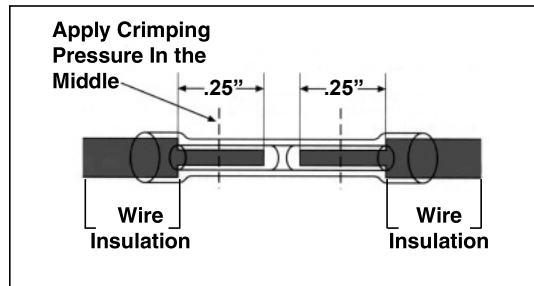

Figure 5
**NOTE:** It is important to remember that a solid electrical connection is essential when installing any electrical device or option. A proper crimp is shown in **Figure 5**.